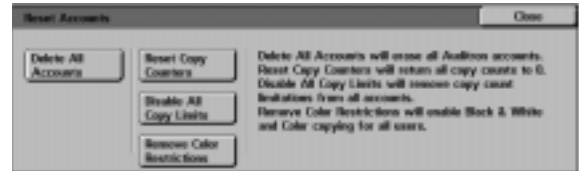

Figure 11: Reset Accounts screen
- 1 On the Auditron Administration screen, touch **Reset Accounts** to display the Reset Accounts screen, as illustrated in Figure 11.